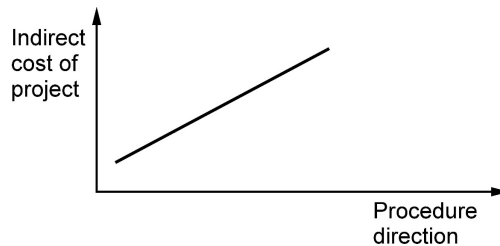

Fig. 4.7.2 Indirect charges
4. Project-related indirect expenses rise linearly with project duration. The Fig. 4.7.2 below illustrates a typical line for indirect charges.